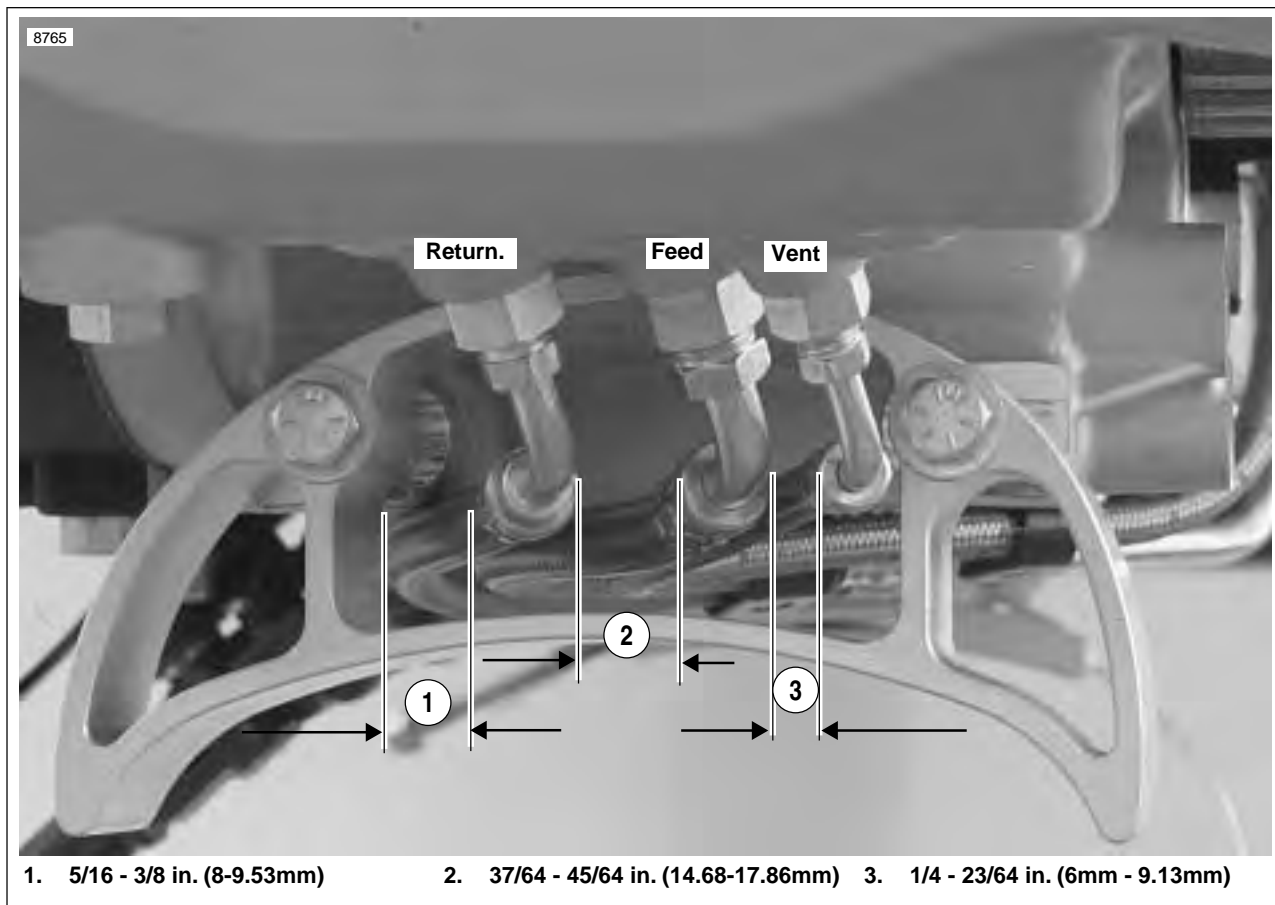

Figure 3-49. Oil Line Clearances and Torques
21. See Figure 3-49. Install the return, feed and vent oil lines starting at the swingarm/oil reservoir and working towards the front of the vehicle. Leave all oil line fittings loose at this time.
22. See Figure 3-49. Torque the return oil line first making sure to maintain the proper clearance between the oil line and the rear muffer bracket. 19-21 ft-lbs (25.8-28.5 Nm.)